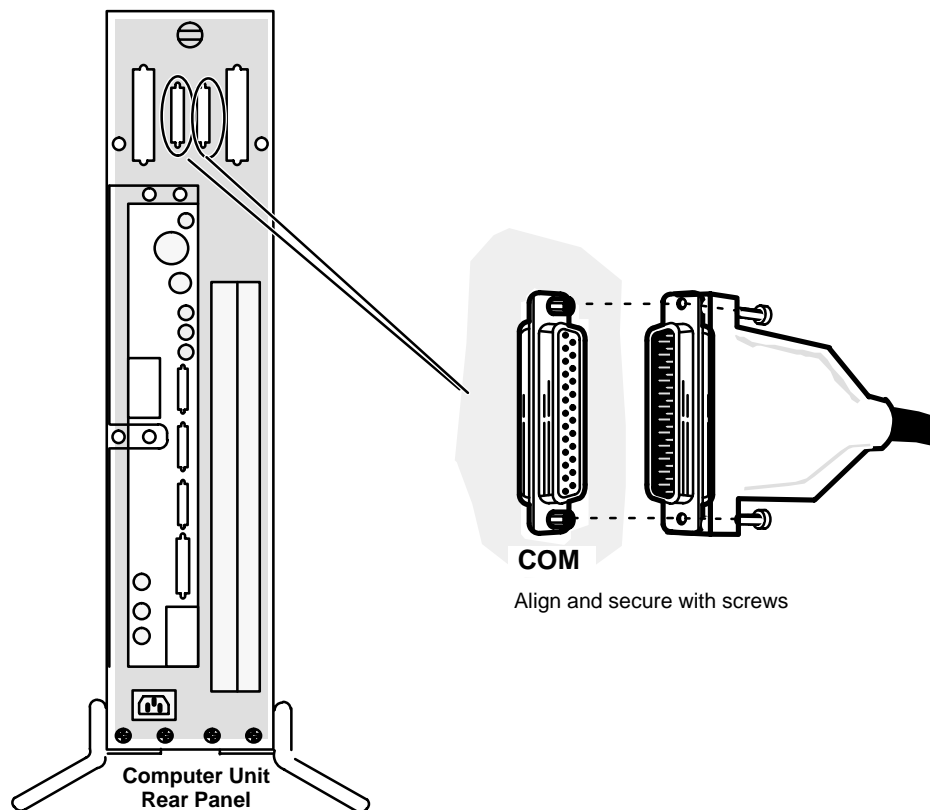

Figure 2-10 Connecting a Synchronous Device to the Computer Unit
1. Plug one end of the synchronous communication cable into the COM A or COM B connector on the back of the computer unit as shown in Figure 2-10. Attach the cable to the connector by tightening the two screws on the cable.